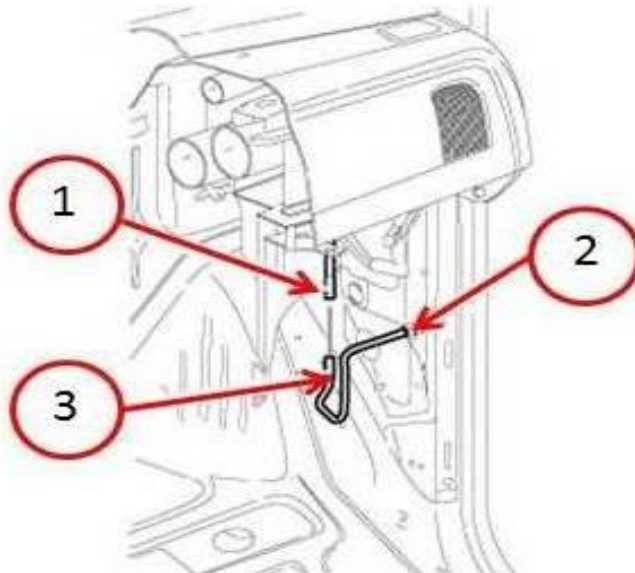

Fig. 4 Antenna Mast Connection
6. Disconnect the antenna mast connector from the instrument panel antenna connector (Fig. 4).